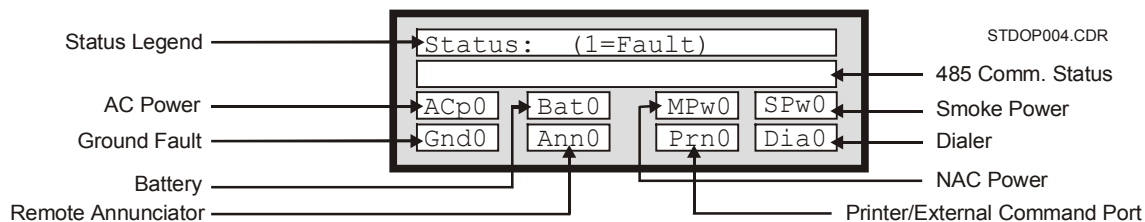

Figure 2-5: General status screen
3. Press Enter until you see the general status screen (Figure 2-5).